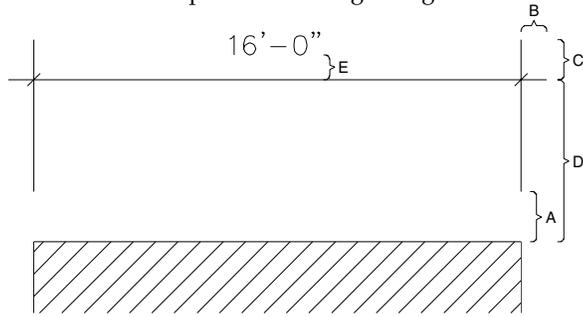

Figure 14.4: Dimension settings: A = Offset, B = Overrun, C = Overlap, D = Increment (with FixdDist toggled on), E = Text Offset
Offset	Set the distance between the entity being dimensioned and the beginning of the extension lines of the dimension (see Figure 14.4)
Overlap	Set the distance extension lines are drawn past dimension lines (see Figure 14.4)
Increment	Set the distance between dimension lines when drawing baseline dimensions; this option has no effect on stringline dimensions unless set to 0, which results in a running dimension without the first arrow (see Figure 14.4)
- Overrun Set the distance dimension lines are drawn past extension lines; a setting of 0 results in the dimension line ending at the extension lines (see Figure 14.4)
- FixdDist Toggle on to draw dimension lines a fixed distance away from the entity being dimensioned; toggle off to enter the distance yourself when you click to select which side of the entity to draw the dimension on (see Figure 14.4)
Offset	Set the distance between the entity being dimensioned and the beginning of the extension lines of the dimension. See Figure 14.4 for an example of Offset and Overlap settings.